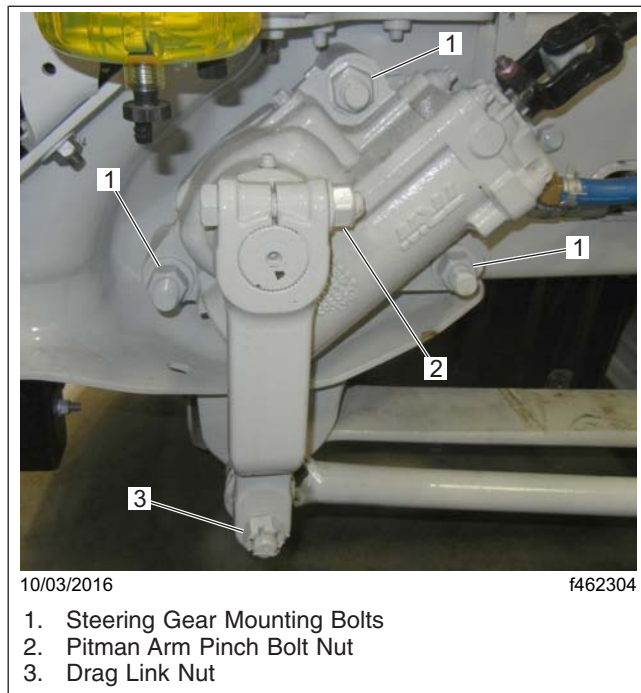

Fig. 22.13, Steering Gear Fasteners
- 6.2 Check the steering gear mounting bolts and pitman arm nut, if equipped, for signs of looseness. See Fig. 22.13.